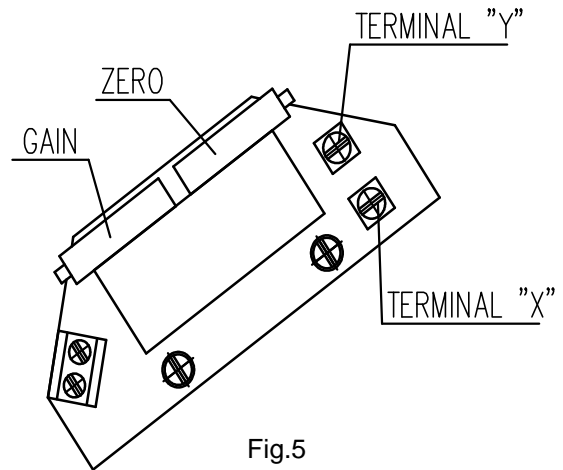

Fig.5
4.4.1 EPV – the 2-wire version (Fig. 5,5a)
- Adjust the resistive transmitter according to the previous chapter. The resistance is to be metered on the terminals X-Y, resp. R-R (Fig. 5,5a). The used transmitter resistance is 100 Ω .